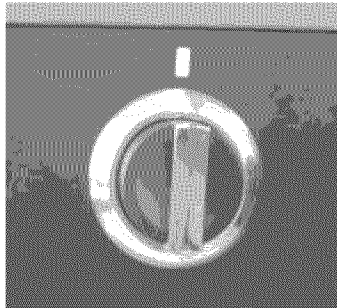

Fig. 11k
9. Push control knob onto side burner valve stem as shown in **Fig. 11k**.